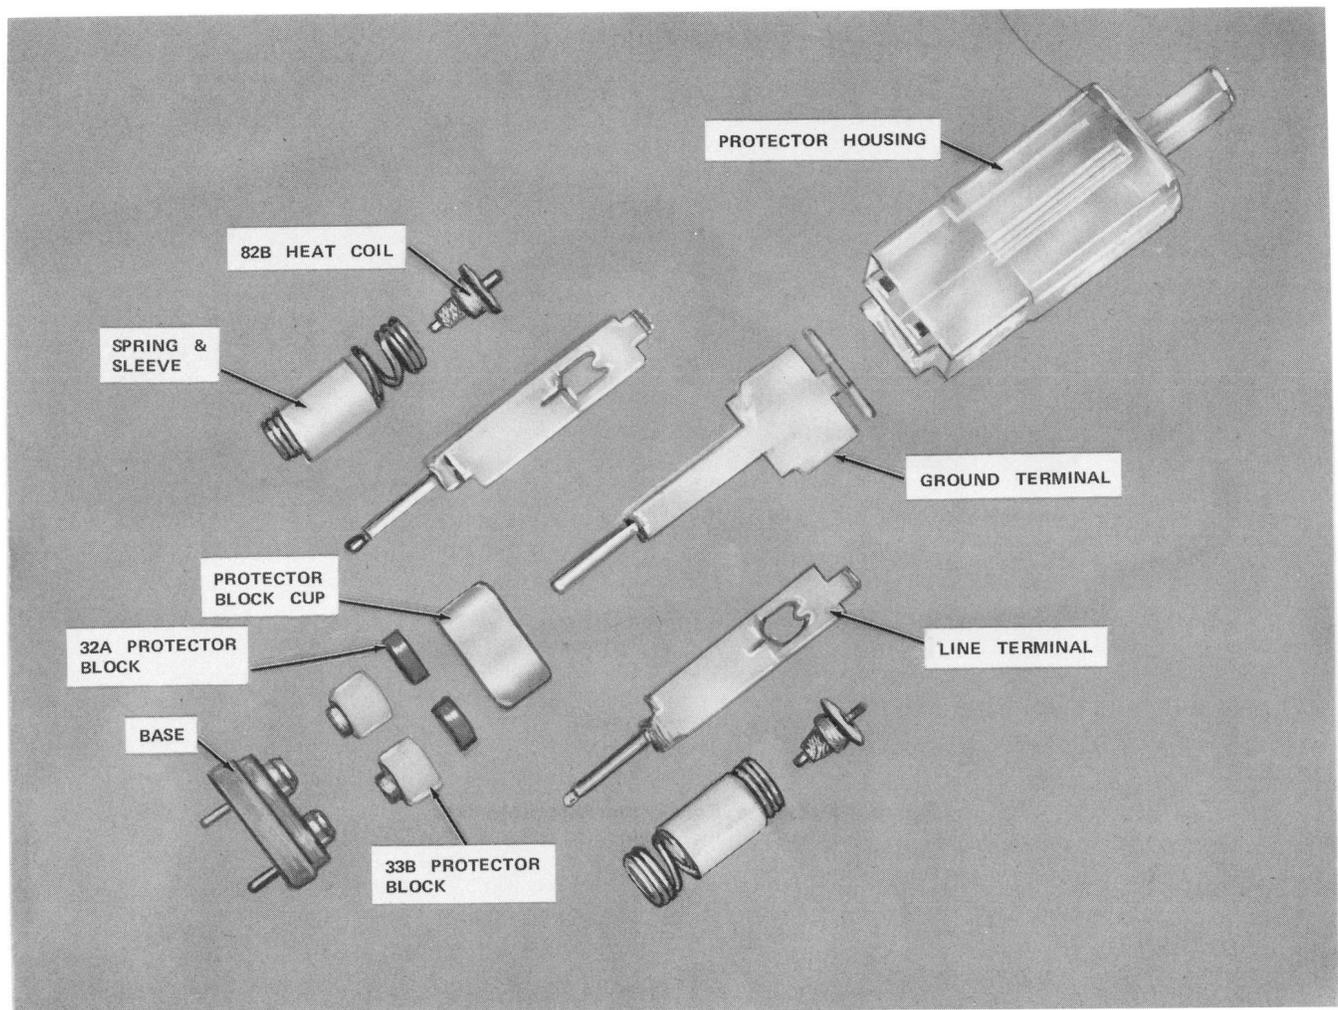

Fig. 7—4C-Type Protector Unit
**5.01** There are several types of 4C-protectors used on the 307-connector. Table A identifies each type by color and application. Figure 7 identifies the parts of a protector unit. The purpose of a protector is to provide current and voltage protection to the inside plant equipment; except for the 4C12C type protector which provides continuity on circuits not requiring protection.